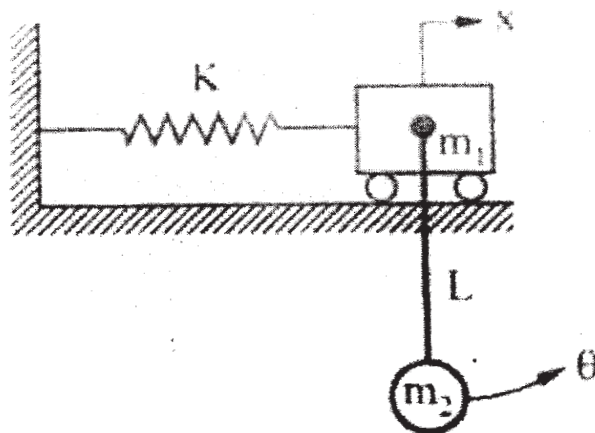

Fig.2
b) For the two - bar truss shown in Fig. 2, determine the displacement of node 2 and the stress in element 2-3. [12]
- b) Determine natural frequency for the given system as shown in Fig.2 [8]
- b) Determine natural frequencies and amplitude ratios for the given system as shown in fig.2. Also comment on the following cases;  $k = \infty$ ,  $m_2 = 0$ ;  $L = 0$ ;  $K = 0$  [12]